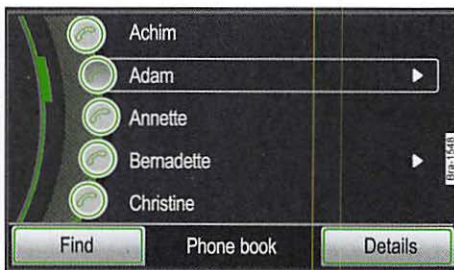

Fig. 75 Phone book.
- Press the ⇒ fig. 74 function button in the *PHONE* main menu to open the address book ⇒ fig. 75.
- Press the **Search** ⇒ fig. 75 function button in the telephone book.
- Tag the phone book entry and press the **Details** function button ⇒ fig. 75.